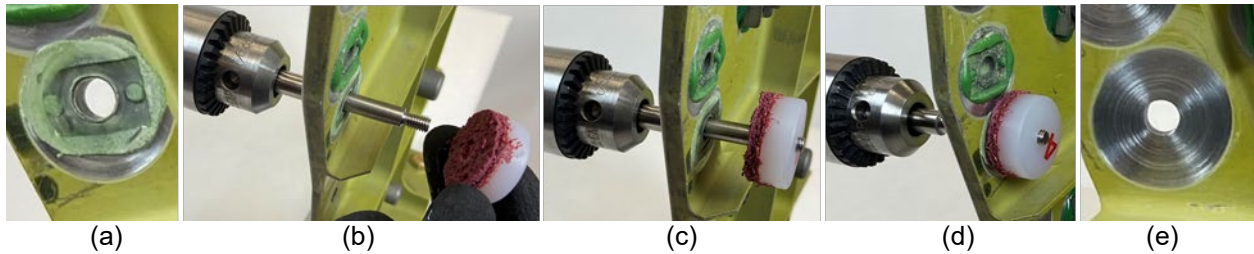

Figure 21. Final Surface Preparation of Structure with Abrasive Pads (Metallic Structure only) Drill Motor – Standard and Segmented Mandrel
3.2.1 Final Surface Preparation of Metallic Structure Surface with Abrasive Pads (Drill Motor) (Figures 21 – 24)
- iii. Thread an unused abrasive pad onto the mandrel – hand snug (Fig 21(b)).
- iv. Press the trigger to start spinning the mandrel. While the pad is spinning, draw the abrasive pad towards the surface of the structure (Fig 21(c) and (Fig 21(d)). Abrade the surface until properly prepared – exposing metallic surface (Fig 21(e)). Dwell no longer than 10 seconds initially before checking level of adhesive removal and every 5 seconds thereafter. If the pad gets clogged, replace with a new pad.